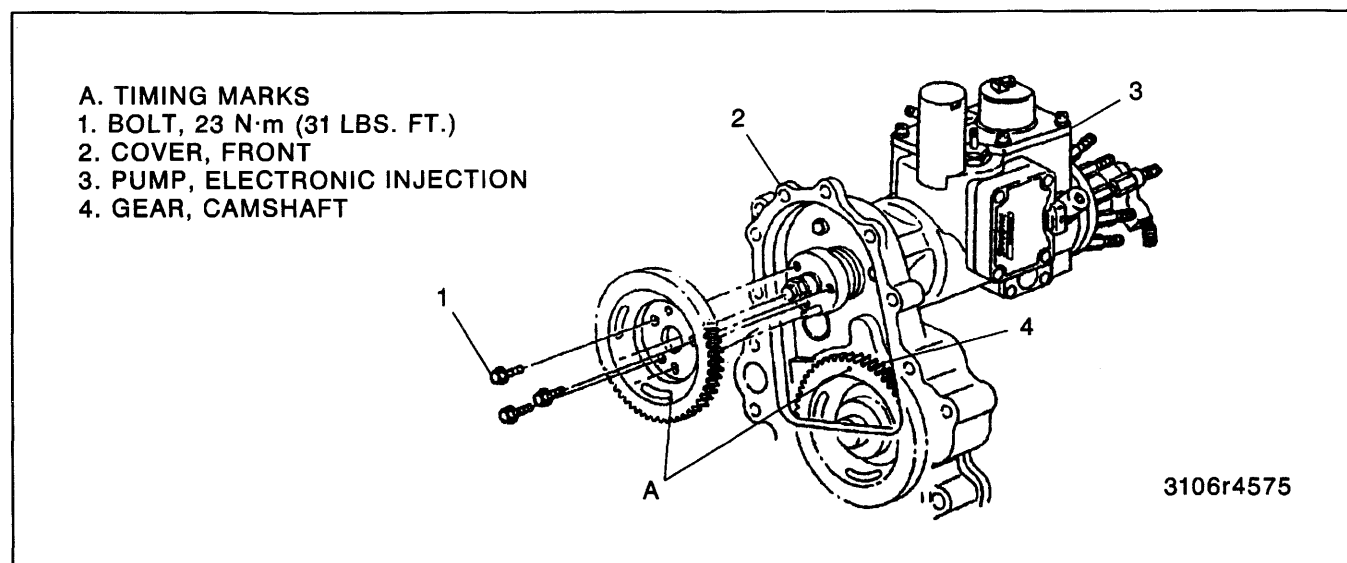

Figure 22—Injection Pump Gear and Timing Marks
- Rotate the engine until the timing marks on the pump gear and camshaft gear are aligned (figure 22).
- Clearance between injection pump gear and baffle (figure 22). It is necessary to maintain a minimum of 1.0 mm (0.040 inch) between the gear and baffle or noise may result.